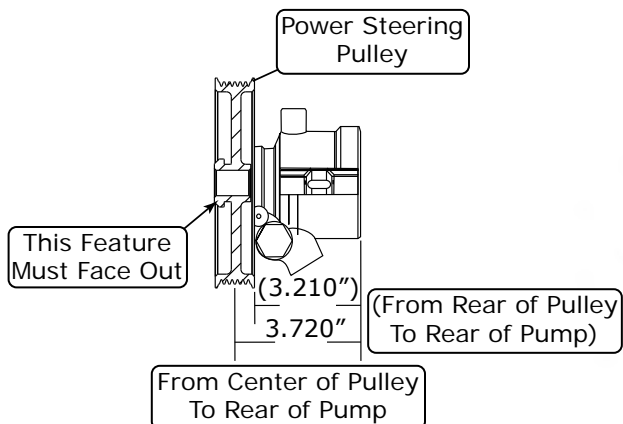

Figure 1
1. Using a power steering pump pulley installer, install the power steering pulley onto the power steering pump (See Figure 1, below). Press power steering pulley onto pump shaft until back of pulley bottoms out on front of pump bearing. Confirm 3.210" measurement from back side of pulley to rear of pump.